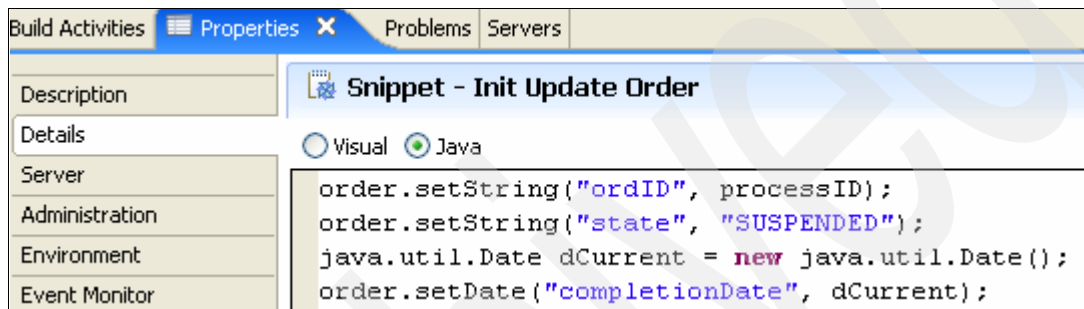

Figure 3-178 Init Update Order snippet
1. Right-click **Otherwise**. Select **Add** → **Snippet**. Name the snippet **Init Update Order**, and define the snippet as shown in Figure 3-178.